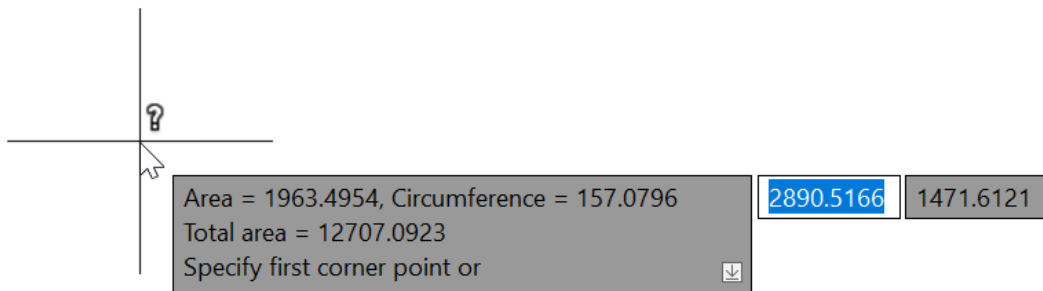

Figure 6.11: The area of the circle and the total area of the sawblade with the circle area subtracted
10. Press *Enter*. In the same gray box you saw when you added the saw tooth area, you will now see the area of the circle displayed (**1963.4954**), along with **Total area (12707.0923)**. The total area is the area of the saw tooth polyline with the circle area subtracted, giving you the actual physical area of the sawblade. This is shown in *Figure 6.11*.